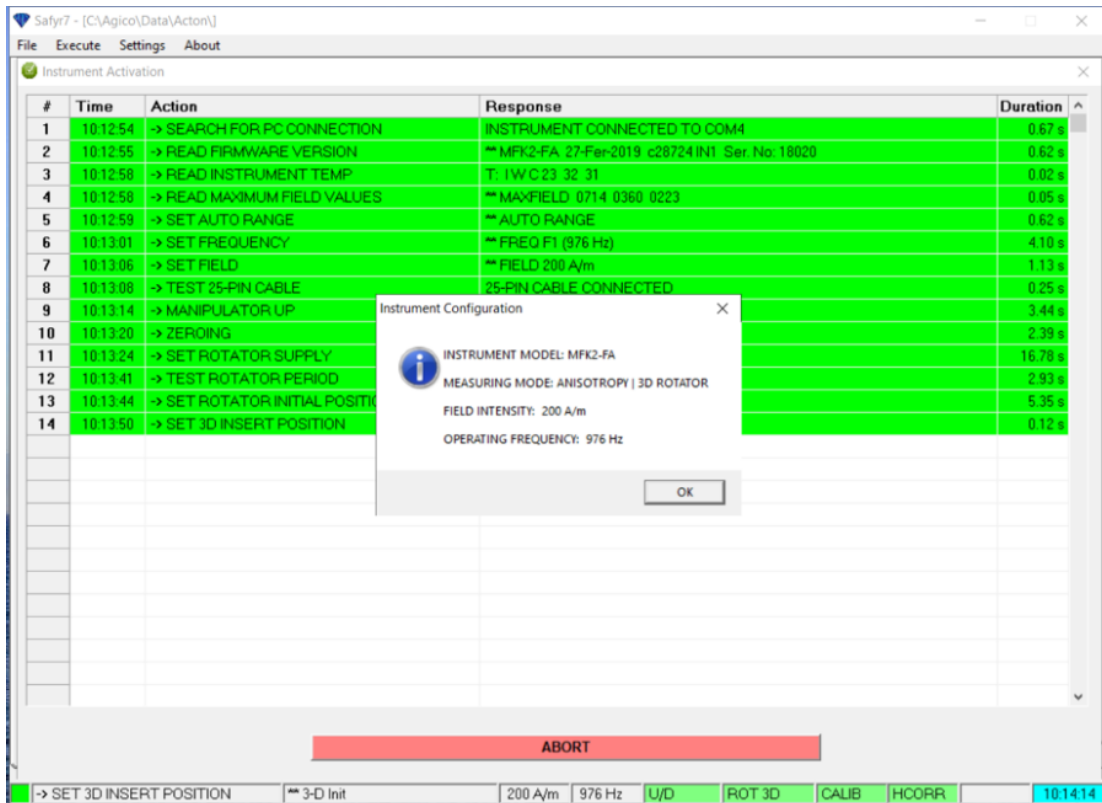

Figure 7: Instrument Activation Window when activation is completed
5. Select **OK** when complete (Figure 7).